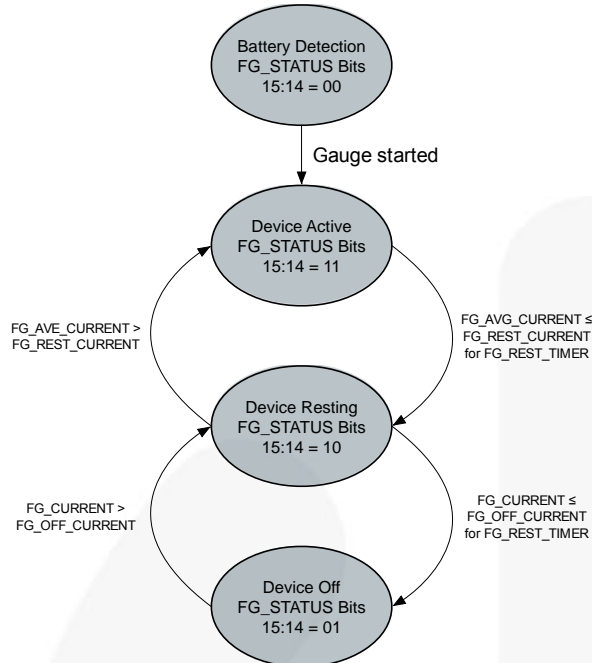

Figure 4. Gauging Modes
The Device Status bits indicate if the algorithm is in the Device Active (11), Device Resting (10) or the Device Off (01) state. The fuel gauge activity status is determined by the values set in the FG_REST_TIME, FG_REST_CURRENT, and FG_OFF_CURRENT registers. Figure 4 describes how the fuel gauge transitions between each of these states. (Note the device must be ACTIVE Power Mode and Gauging must be enabled before the algorithm can be started and thus enter into any of these states). When the FFG1040 enters the Device Resting and Device Off states the data acquisition rate of the gauge and the SOC calculations are slowed to a lower rate.